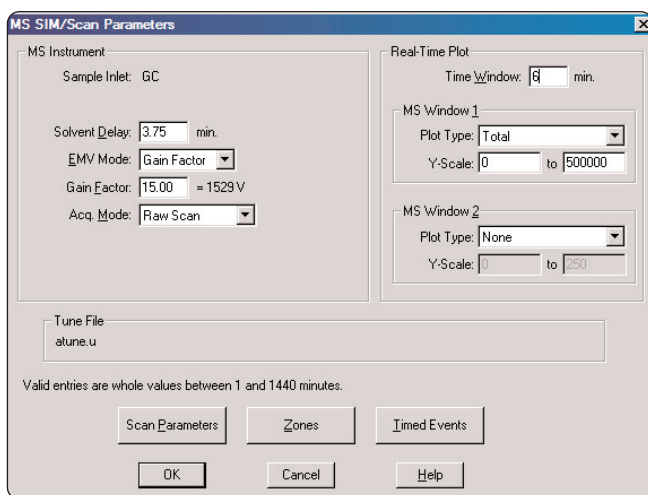
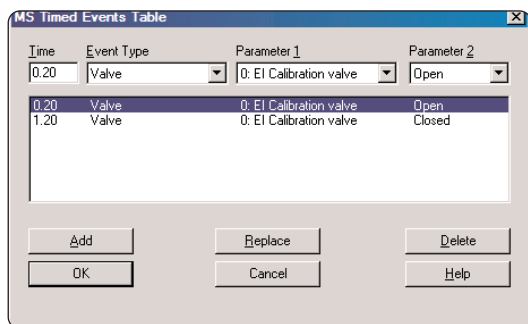

Figure 1. MS Parameters screen
Figure 4 MS Timed Events Table which controls the EI & CI calibration gas.
For mass spectrometer detector (MSD) data to be suitable for the MassWorks software, it must be collected in raw scan mode. This feature is available on ChemStation G1701DA software versions D.02.00 and higher. To initiate raw scan mode, access the **MS SIM/Scan Parameters** screen (Figure 1). Set the **Acq Mode** to **Raw Scan**. If this item is not one of the options, check your version of the software. The other important parameters that are available in this menu are the **Solvent Delay** (which is the delay time in minutes before the acquisition begins) and the **EMV Mode**. It is highly recommended that **Gain Factor** be selected and used during acquisition. By using **Gain Factor**, the user can scale the signal directly which is very convenient for keeping signal ion currents within limits [3].
- 1) In the **MS Parameters** window (Figure 1) click the **Timed Events** button to bring up the **MS Timed Events Table** (Figure 4).
Repeat this procedure with the addition of a half-minute or longer before setting the state to **Closed**. The example shown in Figure 4 opens the valve at 0.20 min and closes the valve at 1.2 min.